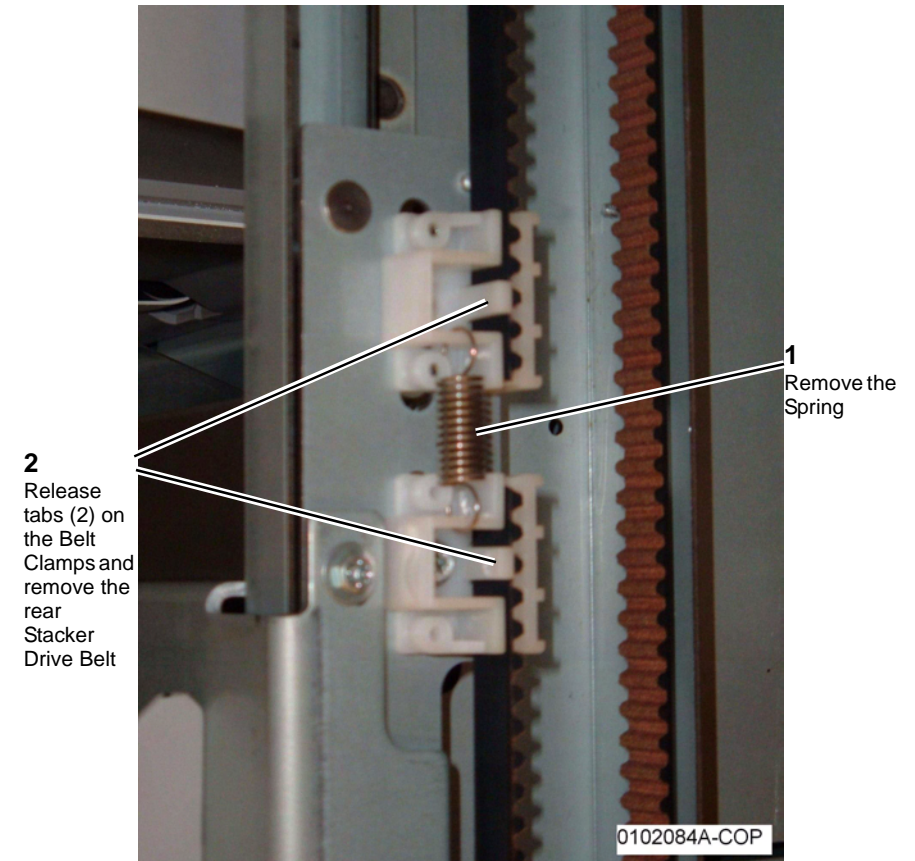

Figure 1 Removing the rear Stacker Belt
5. Remove the rear Stacker Drive Belt (Figure 1).